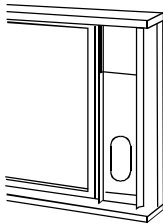

Fig. 16
3. Cut the foam seal(adhesive type) to the proper length and attach it on the top of the window. Shown as in Fig.16.